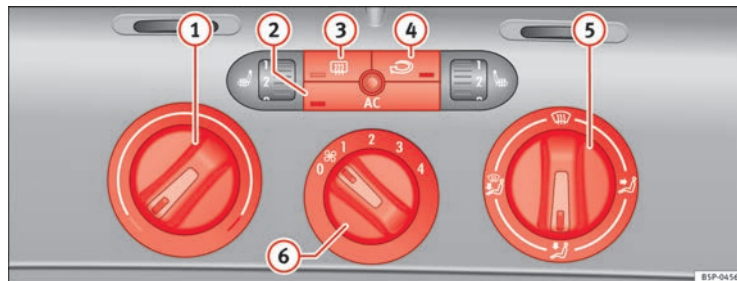

Fig. 126 On the dash panel: Climatic controls
- Use the knobs ⇒ Fig. 126 ① and ⑤ and control ⑥ to set the temperature, air distribution and blower speed.
- To switch a function on or off, press the appropriate button ②, ③ or ④. When the function is activated, the display window in the lower corner of the button is lit.
- ① Temperature selector ⇒ page 157
- ② AC button – Heating, ventilation and air-conditioning system on/off ⇒ page 157
- ③ Heated rear window button – The heating will be switched off automatically approximately 20 minutes after switching on. It can also be switched off beforehand by pushing the button.
- ④ Button – Air recirculation mode ⇒ page 158
- ⑤ Air distribution control ⇒ page 157
- ⑥ Blower switch. There are four speed settings for the air flow. The air flow should always be set at the lowest speed when driving slowly.
- Switch on the air conditioner using the button ⇒ Fig. 126 .